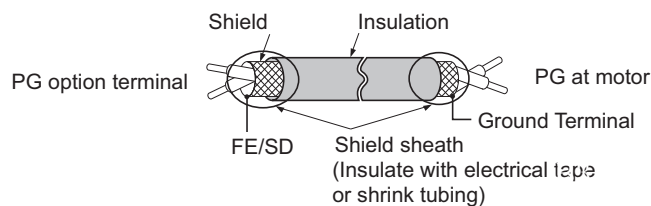
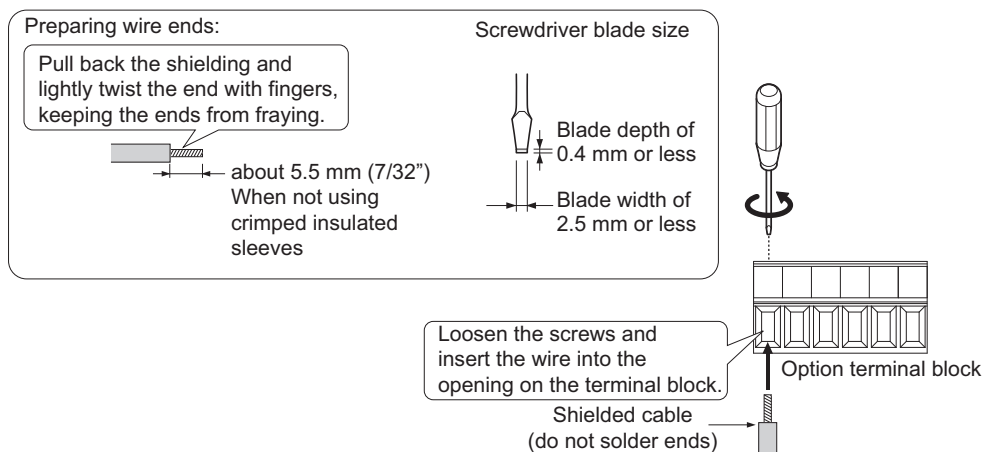

Figure 8.6 Preparing Ends of Shielded Cable
Figure 8.7 Preparing and Connecting Cable Wiring
2. There are two screw holes on the drive for use as ground terminals (I). When connecting three options, two ground wires will need to share the same drive ground terminal.
4. Prepare and connect the wire ends as shown in Figure 8.6 and Figure 8.7. Refer to Wire Gauges and Tightening Torques on page 416 to confirm that the proper tightening torque is applied to each terminal. Take particular precaution to ensure that each wire is properly connected and wire insulation is not accidentally pinched into electrical terminals.